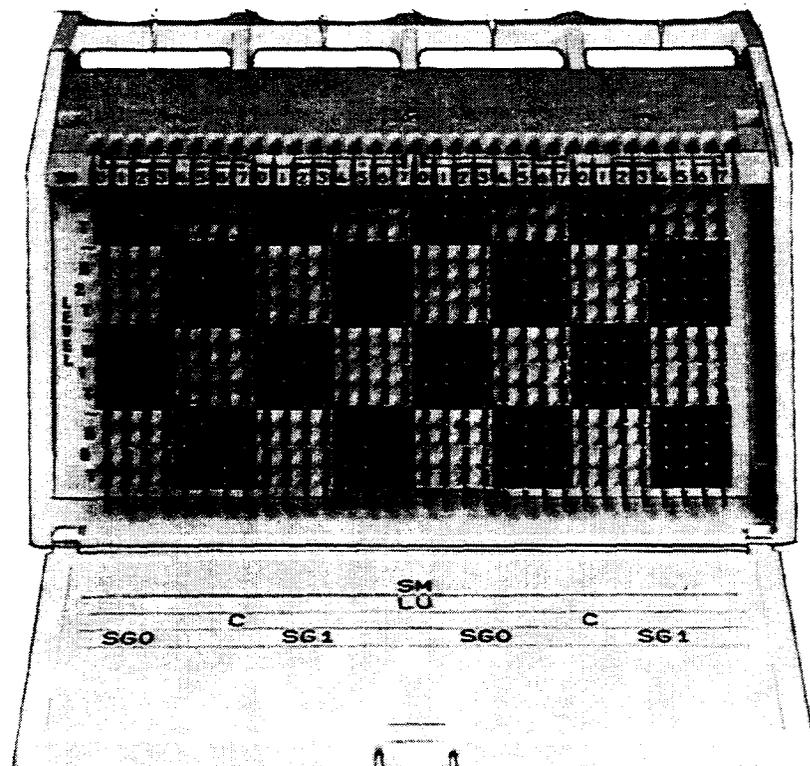

Figure 35—89-Type Connecting Block
**8.16** The 89-type connecting blocks (Figure 35) are designed for use with all conventional and low profile conventional distributing frames. They can be utilized to terminate the ESS, 2ESS, 5ESS, and other vendor switches. In addition, they can also be used to terminate all trunk, toll, and miscellaneous circuits.